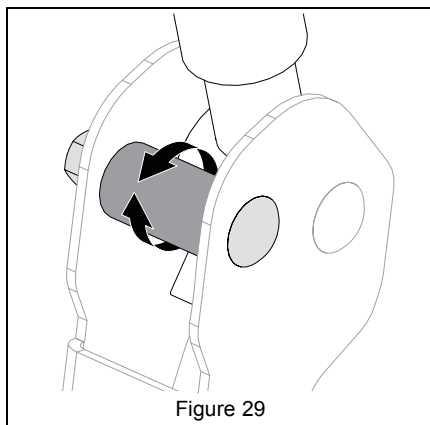

Figure 29
5. Turn eccentric spacer so levers are at the same height and have a 1.3 cm – 2.5 cm (1/2" – 1") gap between lever ends. See Figure 29.